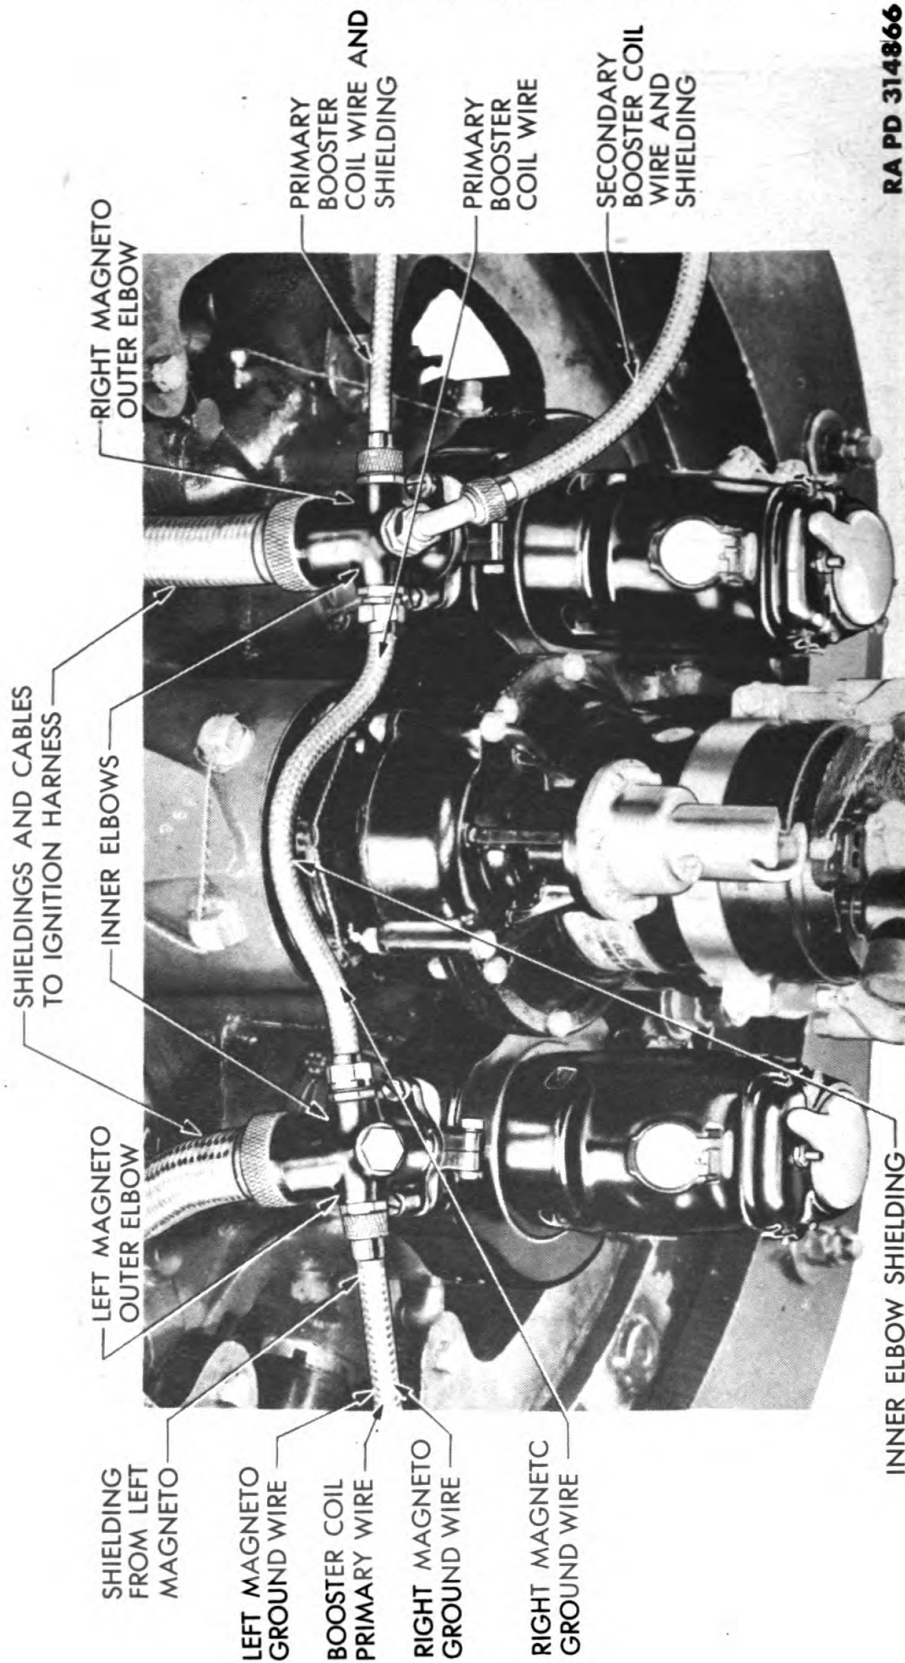
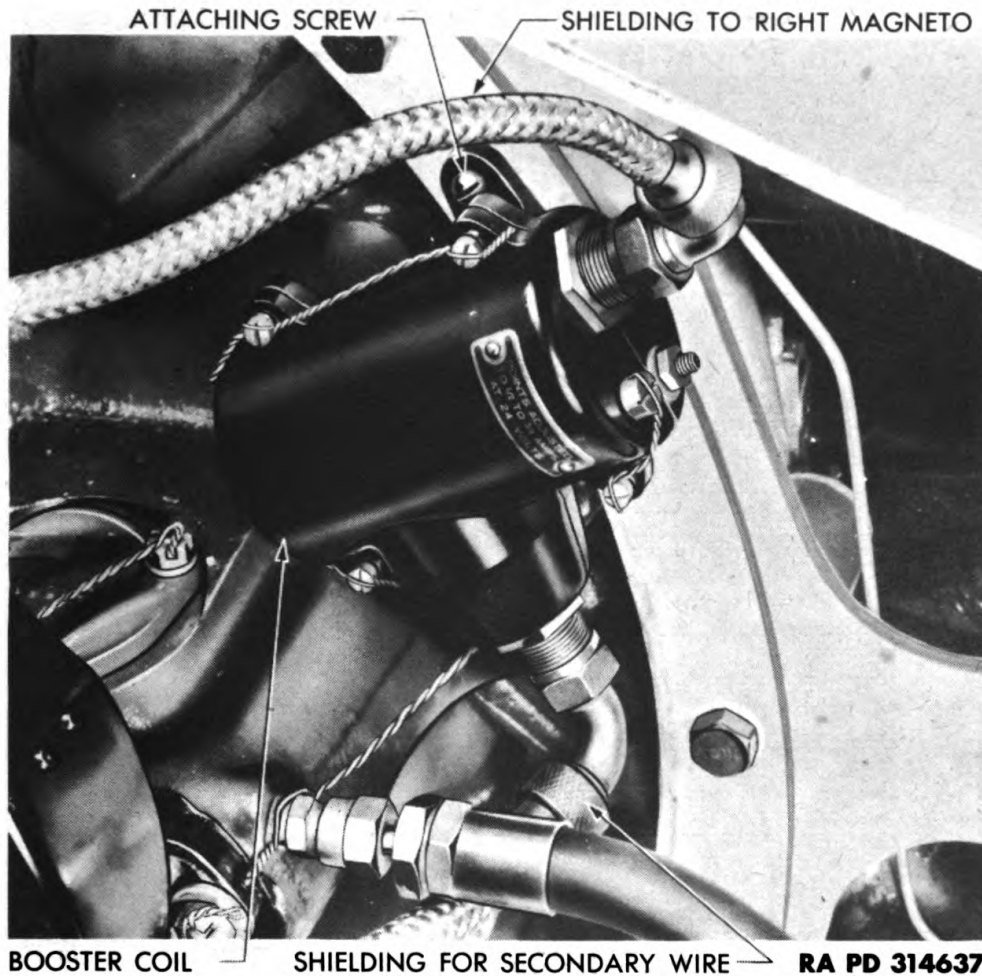

Figure 27 – Magneto and Booster Coil Shielding
Figure 28 – Booster Coil
g. Remove Magneto Shielding. Cut both magneto ground wires and the primary booster coil wire as close to loose terminal ends as possible (fig. 3). Unscrew nut attaching shielding to left magneto outer elbow (fig. 27). Remove shielding from over three cut wires. Coil left magneto ground wire, and attach coil to left magneto elbow. Unscrew nuts attaching inner elbow shielding to both magnetos (fig. 27). Pull right magneto ground wire and primary booster coil
wire through left magneto elbow. Remove inner elbow shielding. Coil right magneto ground wire and attach coil to right magneto elbow. Unscrew nut attaching shielding for primary booster coil wire to right magneto outer elbow (fig. 27), and knurled nut attaching shielding to booster coil (fig. 28). Pull primary wire through right magneto elbow and remove shielding. Coil primary wire and attach to booster coil.
h. Remove Booster Coil. Unscrew nut holding shielding for secondary booster coil wire to booster coil (fig. 28). Disconnect shielding elbow from coil, by unscrewing elbow hexagonal nut and pulling out elbow and cigarette connector. Remove connector from end of secondary wire. Unscrew nut attaching shielding for secondary wire to front of right magneto elbow (fig. 27). Slide off shielding. Coil secondary wire, and attach coil to right magneto elbow. Remove two fillister-head screws holding booster coil to engine support. Remove screws and toothed lock washers; remove coil (fig. 28).